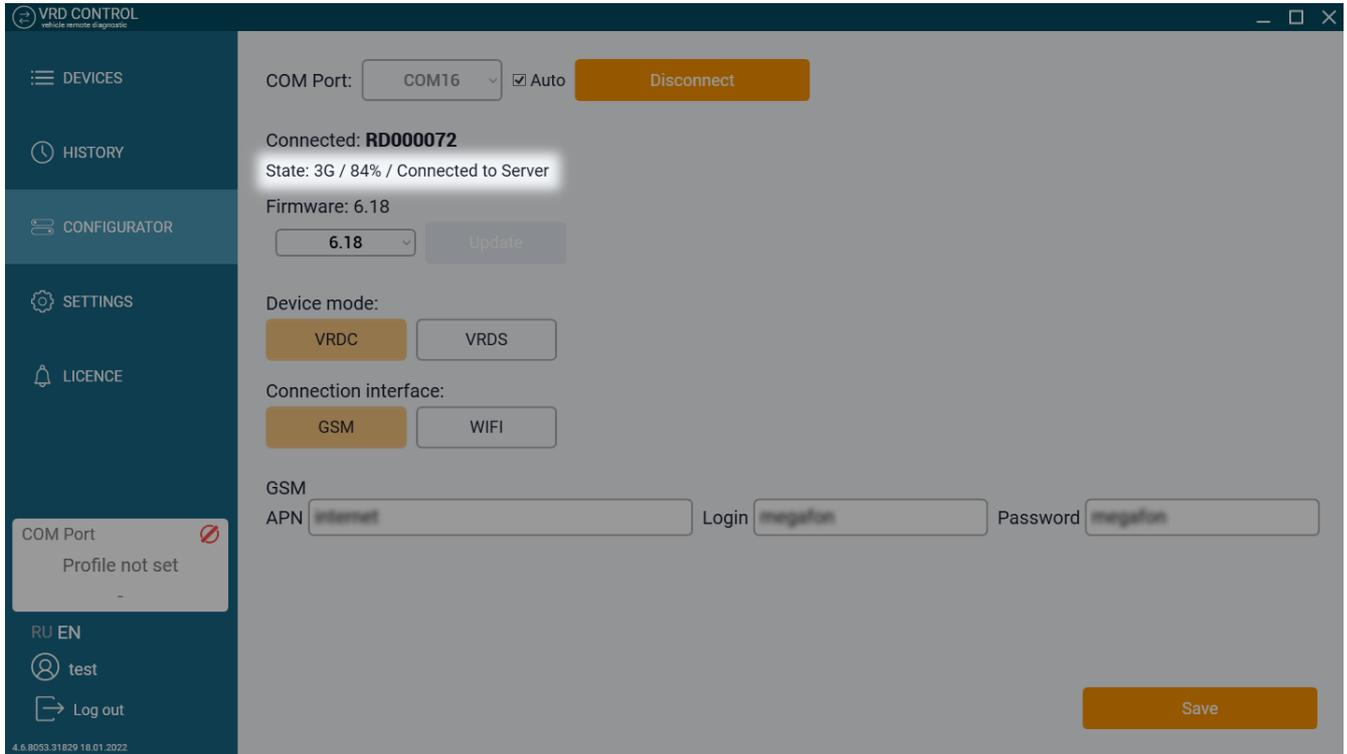

Figure 18
5. Specify settings of the Wi-Fi access point to which the device shall be connected (see Figure 18). Fill in the following fields: